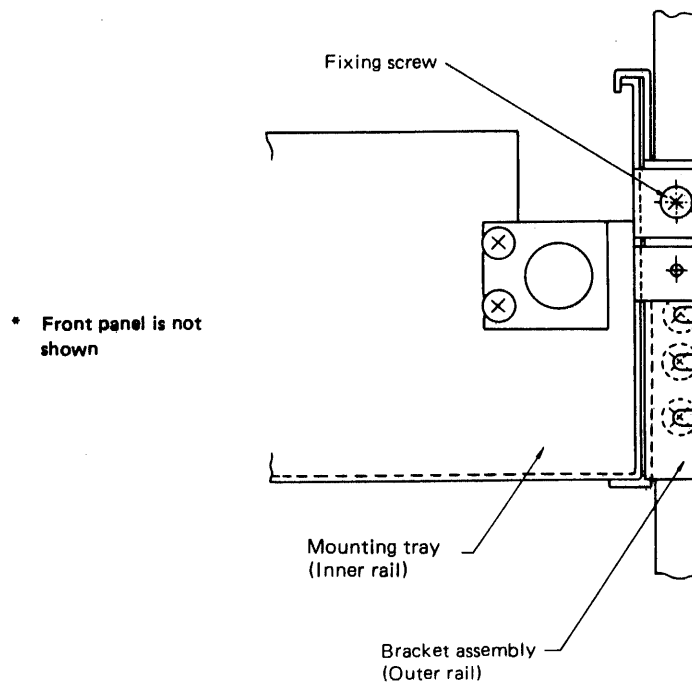

Figure 2.15 Mounting tray to the outer rails
- ⑥ Insert the mounting tray and fix it to the outer rails at the front left and right. (See Figure 2.15).
- ⑦ Mount the front panel.